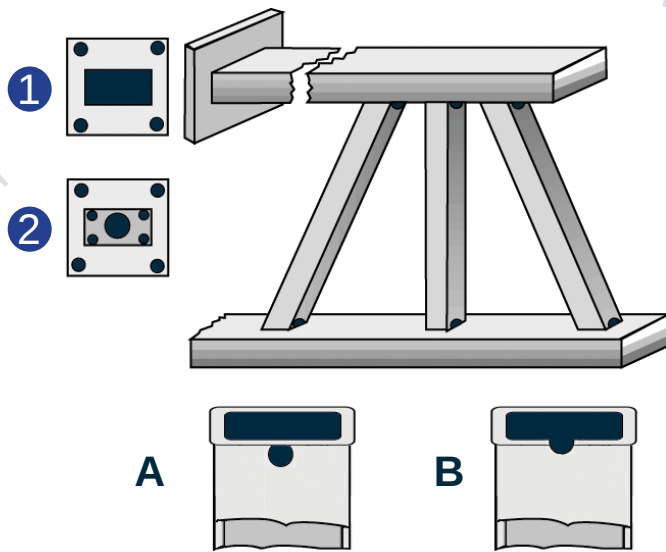

Figure 15: Holes at either end of the rectangular tube trusses should be completely open
RECTANGULAR TUBE TRUSS (FIGURE 15)
Examples A and B in Figure 15 show proper hole locations for the vertical members. Each vertical member should have two holes at each end, 180° apart in line with the horizontal members. Preferably, the size of the holes should be equal, and the combined area of the two holes at either end should be at least 30% of the cross-sectional area.
- 2 From Figure 15, if $H + W = 24"$ (61 cm) or larger, the area of the hole, plus clips, should equal 25% of the area of the tube ($H \times W$).